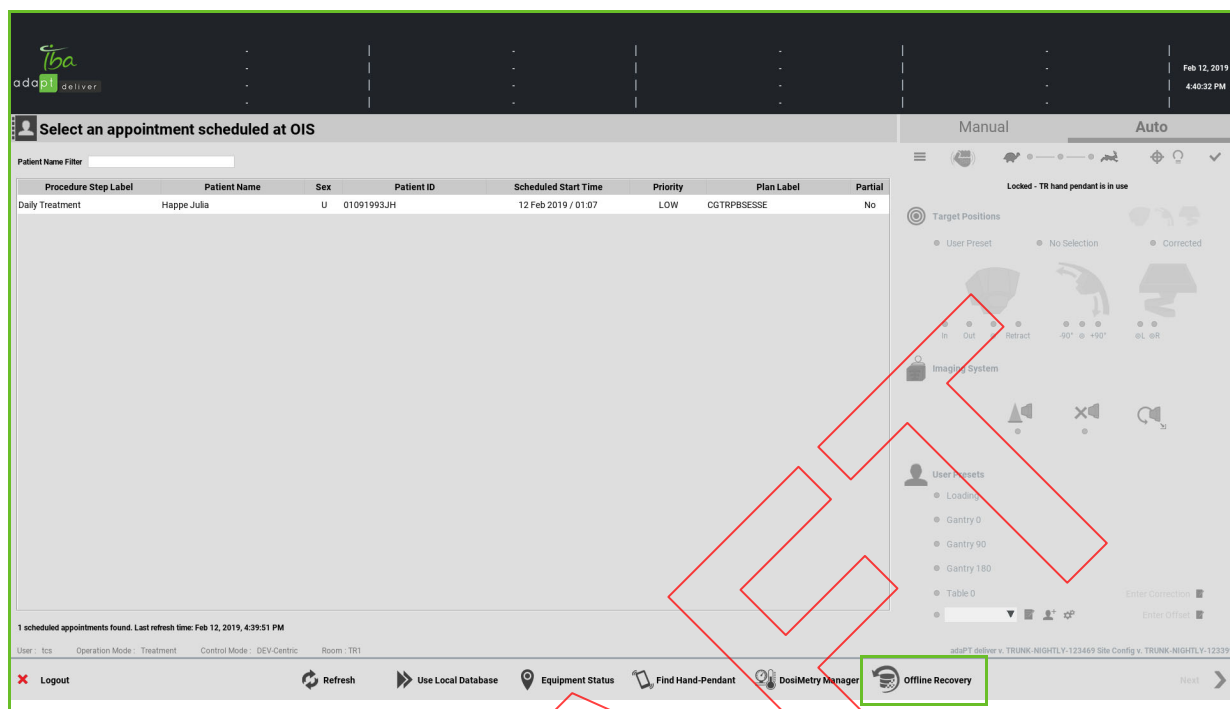

Figure 41-11. Recovery after termination by PTS - Offline recovery
- This screen has the button **Offline Recovery** (Figure 41-11), which is the starting point of the recovery process.
1. Click **Offline Recovery** in the Session Definition screen (Figure 41-11).